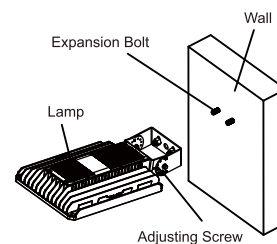

Figure5
- Step 1: Drill on the wall according to the installation holes of lamp, and install expansion bolt; (Figure 5)